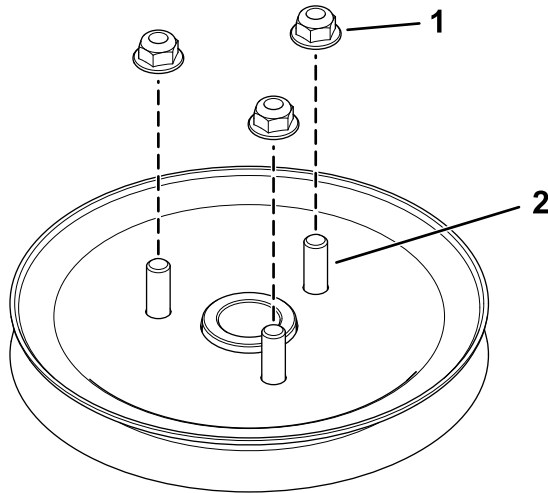

Figure 8
4. Loosely install the 3 nuts to the studs (Figure 8). Leave a clearance of 5 mm (3/16 inch) between the nut and sheave.